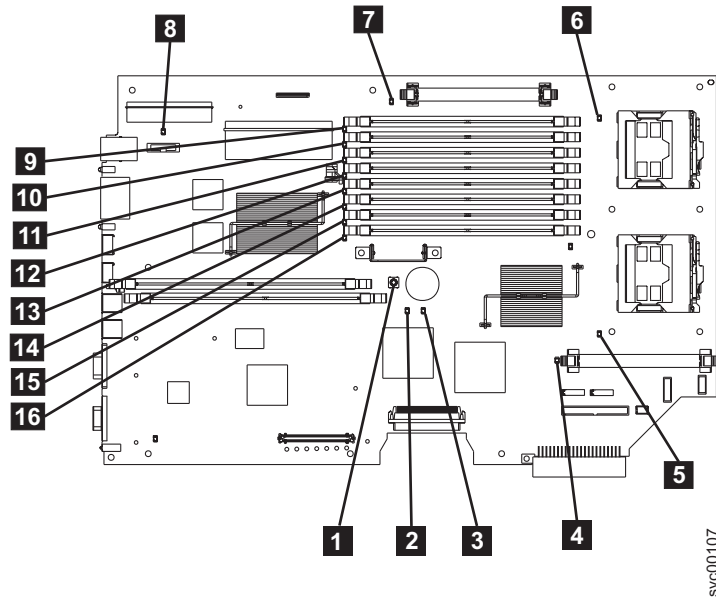

Figure 44. The SAN Volume Controller 2145-8F2 system board
- YES** Refer to Table 19 on page 205 and perform the action specified for the specific light path diagnostic LEDs, then go to step 3 on page 207. Some actions will require that you observe the state of LEDs on the system board or on the fan backplanes. The location of the system board LEDs are shown in Figure 44 on page 205. The fan LEDs are located adjacent to each FAN. To view the LEDs you will need to do the following:
- d. Press the light path diagnostic button **1**. See Figure 44 on page 205.